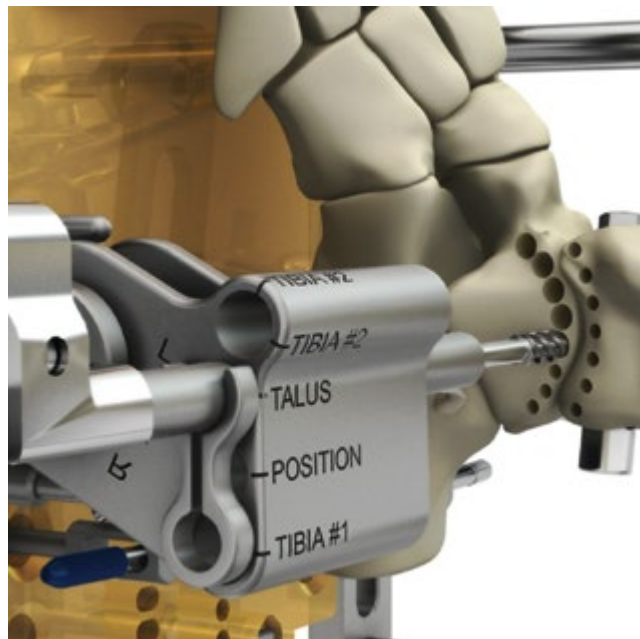

Fig. 53
- Create a pattern of nested holes in the talus (Fig. 53).